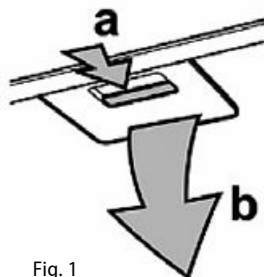

Fig. 1
1. Remove the metallic filters (Fig. 1). In case there are carbon filters mounted, remove them.